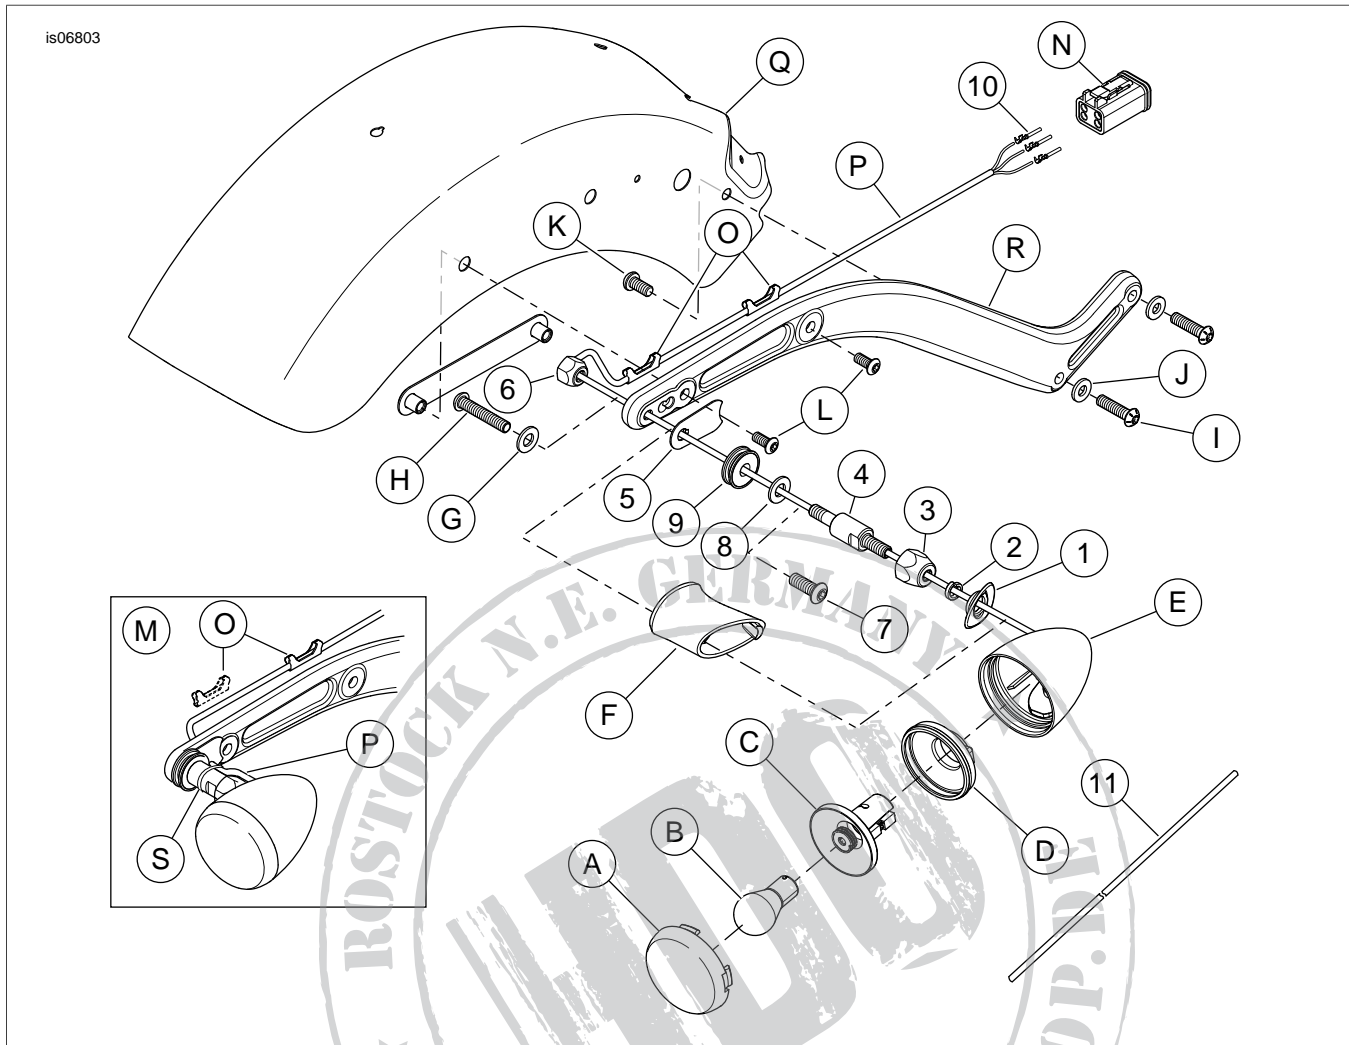

Figure 1. Service Parts: Turn Signal Relocation Kit
5. See the service manual and Figure 1. Remove the socket terminals (10) from the 4-way socket housing (N).
6. Remove two screws (L) and screw (K) and remove the fender support (R) from the fender (Q).
7. Separate the Stop/Tail/turn harness (P) from the retaining clips (O).
8. Remove screw (H), washer (G), turn signal stalk (F) and assembled Stop/Tail/Turn lamp assembly from the fender support, pulling the harness out of the fender support and turn signal stalk. Save the washer for later installation and discard the screw and turn signal stalk.
- b. Remove lens (A) from Stop/Tail/Turn housing (E). Remove bulb (B) from the socket of reflector (C).
- c. Carefully pry the socket (C) and grommet (D) from the housing. The socket (C) and grommet (D) can be pressed out the housing (E) by inserting a small screwdriver into the harness hole of the housing (E) and prying gently against the back of the socket. Gently pull the wires from the housing.
1. See Figure 1. Install screw (7), washer (8), docking point (9) and cover plate (5) to rear hole of the fender support and secure with nut (6) and stock washer (G). Hold nut in place with a 3/8 inch hex key and tighten screw to 15 ft-lbs (20 Nm).
2. Clean the threads of screws (L) and (K) of any existing threadlocker.
3. Apply a small amount of Loctite 243 (blue) to screws (L), then install the fender support (R) to the fender (Q) and secure with fender bracket and screws. Do not tighten at this time.
4. Apply a small amount of Loctite 243 (blue) to screw (K) and install to fender (Q) and fender support (R).
1. See Figure 1. Install the turn signal stalk (4), washer (8), docking point (9) and cover plate (5) into the rear mounting hole in the fender support. Secure the stalk to the fender support with nut (6) and stock washer (G). Do not tighten at this time.
2. Use a 3/8 inch hex key to rotate the nut (6), so that the outlet of the cut groove on the nut will face towards the front of the fender when the fender support is installed.
4. Install jam nut (3) onto turn signal stalk (4) until it bottoms out on the threads, but do not tighten.
5. Install lockwasher (2) onto turn signal stalk (4).
6. Remove the socket terminals from the Stop/Tail/Turn harness by cutting the wires (P) immediately behind the socket terminals (10).
7. Place the recess cover (1) into position over the recess in the turn signal housing. Insert the wires from the socket through the grommet (D) into the turn signal housing (E), through the threaded hole and the recess cover, and into the turn signal stalk (4).
1. See Figure 1. Install turn signal stalk (4), washer (8), docking point (9) and cover plate (5) to rear hole of the fender support and secure with nut (6) and stock washer (G). Hold nut in place with a 3/8 inch hex key and tighten turn signal stalk (4) to 15 ft-lbs (20 Nm).
2. Install jam nut (3) onto turn signal stalk (4) until it bottoms out on the threads, but do not tighten.
3. Install lockwasher (2) onto turn signal stalk (4).
4. Route the Stop/Tail/Turn harness through the small hole of the recess cover, then place the recess cover (1) into position over the recess in the turn signal housing.
7. Cut a 6 in (15 cm) section of conduit from the conduit (11) from the kit. Install the conduit over the gray harness of the Stop/Tail/Turn lamp and slide it all the way up to the recess cover.
8. See Figure 1, item (M). Remove the rear retaining clip (O) from the fender strut.
9. Route the wiring harness (P) along the turn signal stalk. Secure the harness to the turn signal stalk with a cable strap (S).
10. Route the wire harness to the fender side of the fender strut through the recess created by removing the rear retaining clip. Then route it through the front retaining clip (O). It may be necessary to flatten the conduit for it to fit properly.
11. See the service manual and install the wire harness socket terminals into the socket housing (N):
- a. Install the White (W) wire into cavity 1.
- b. Install the Green (GN) wire into cavity 2.
- c. Install the Red (R) wire into cavity 3.
- d. Install the Black (BK) wire into cavity 4.
12. Clean the threads of screws (L) and (K) of any existing threadlocker.